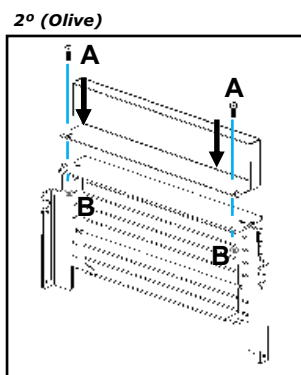

Figure 35 - Joining the front grille with the top backtrack
d) In case of **Olive** equipment, before fitting the front grille to the equipment, the upper back piece must be joined to the grid, matching the holes of the grid with the holes of the back (Figure 35) and join them with two screws **A** (DIN 912 M5x12) and two nuts **B** (Nuts M5 DIN 6923).